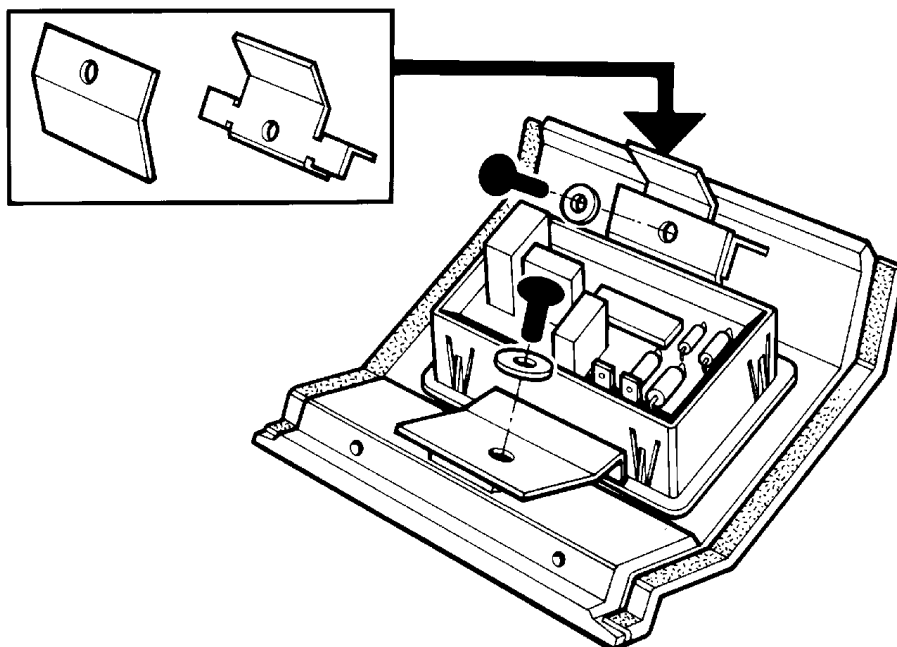

Fig. 23A
5. To remove timer - Remove 2 screws as shown in Fig. 23A.